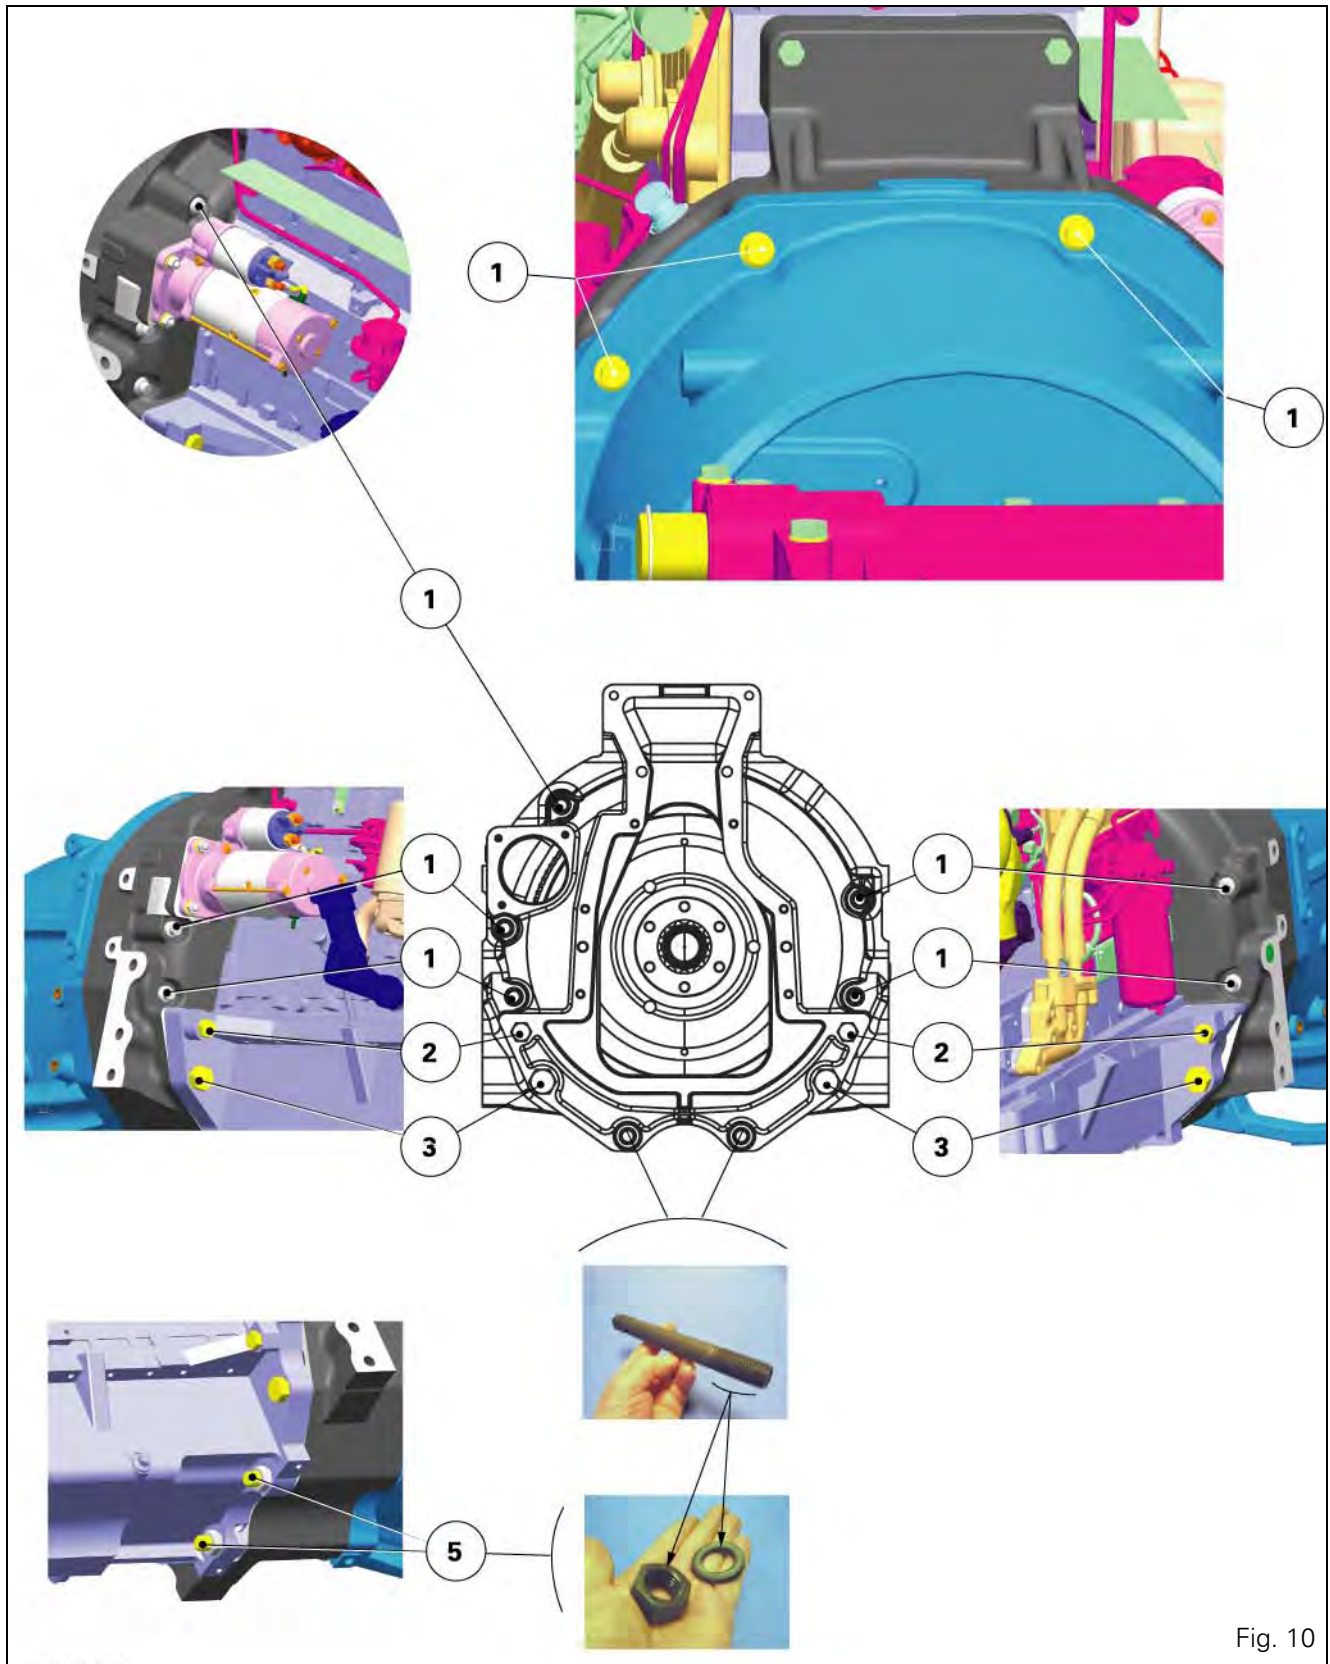

Fig. 10
28. When the elements are joined, remove the guide studs (if fitted). Lightly grease the thread of the screws and nuts with Loctite 270 or equivalent and refit according to the marks made at disassembly. Tighten to the required torques (Fig. 10):
- Screw (1): 240 - 320 Nm
- Screw (2): 240 - 320 Nm
- Screw (3): 630 - 840 Nm
- Nuts (5): 630 - 840 Nm.